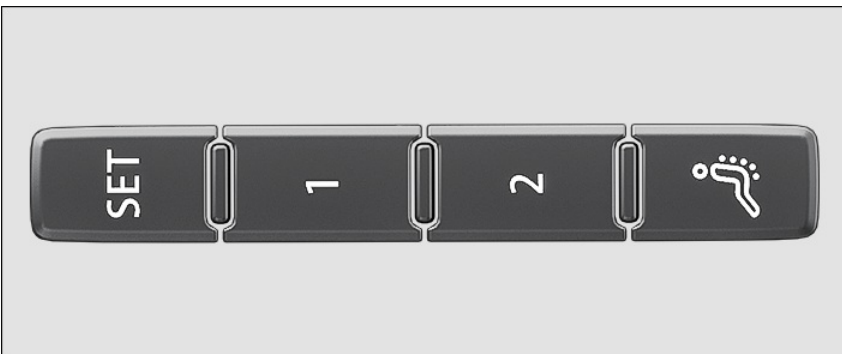

Fig. 79 On the outer side of the driver's seat: memory buttons.
5. Press the **SET** *fig. 79* button for longer than ten seconds.
4. Press the desired memory button *fig. 79*.